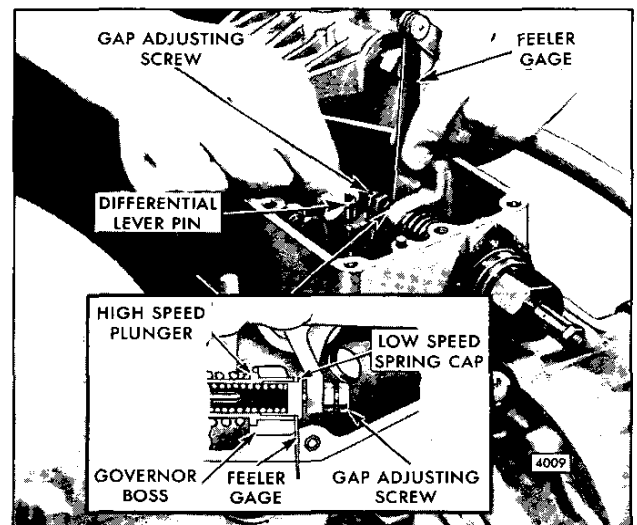

Fig. 2 - Adjusting Governor Gap
6. Check the gap between the low-speed spring cap and the high-speed spring plunger with a feeler gage (Fig. 2). The gap should be .002"-.004". If the gap setting is incorrect, reset the gap adjusting screw.